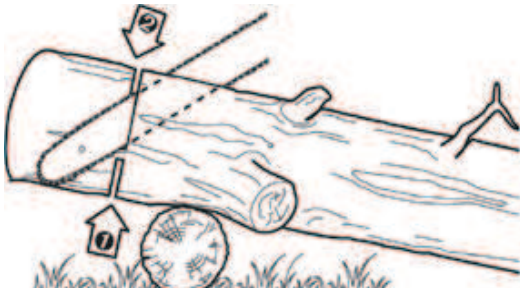

Fig. 38
2. When the log is supported on one end (Fig. 38), cut $\frac{1}{3}$ the diameter from the underside (underbuck). Then make the finished cut by overbucking to meet the first cut.